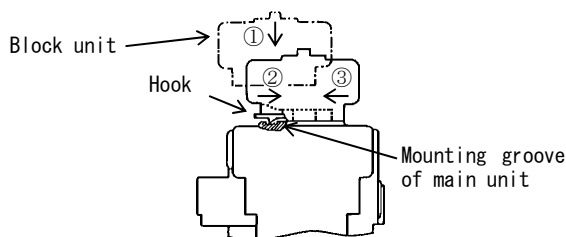

Fig. 1
(1) Front mounting type (Fig.1)
- When mounting, attach the block unit to the main unit in the direction of ①, and move it in the direction of ② until the hook of the block unit is caught in the mounting groove of the main unit. After mounting, press the moving section of the block unit to ensure that the block unit moves smoothly.
- To remove the block unit, pull up the hook and move it in the direction of ③.